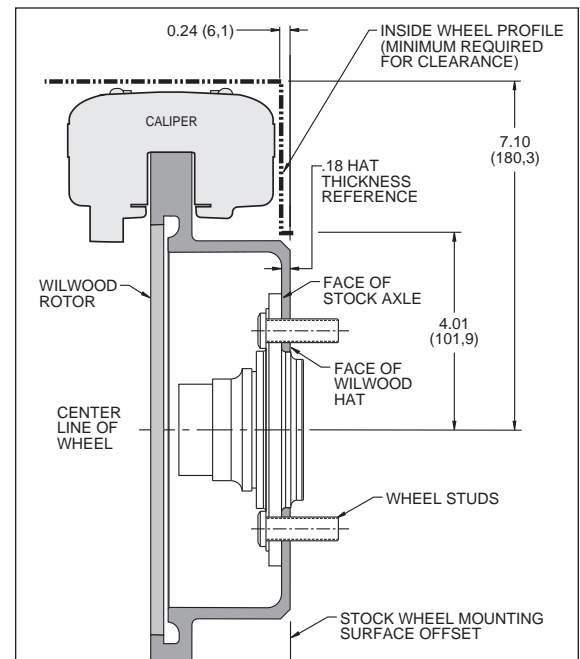

Figure 4. Wheel Clearance Diagram
- Review the wheel clearance diagram (figure 4, page 3) to verify that there is adequate clearance with the wheels you will be using with the installation.
A. **Full Circle Retainers** require the utilization of a qualified machine shop to press off the axle bearing and OEM retainer. Then have machine shop install new retainer (2), supplied with bracket kit with lip facing toward bearing and backing plate (or backing plate can be installed later by removal and replacement of bearing snap ring, reference Figures 4, 6 and 7 (we suggest that you install a new bearing at this time, not supplied with kit).
B. **"U" Retainers** require the removal of the OEM retainer by cutting or grinding a notch in the retainer to facilitate removal. Once OEM retainer is removed, install new retainer (2) supplied with bracket kit with the "U" opening facing up and the lip facing toward bearing, reference Figures 4, 6 and 7.